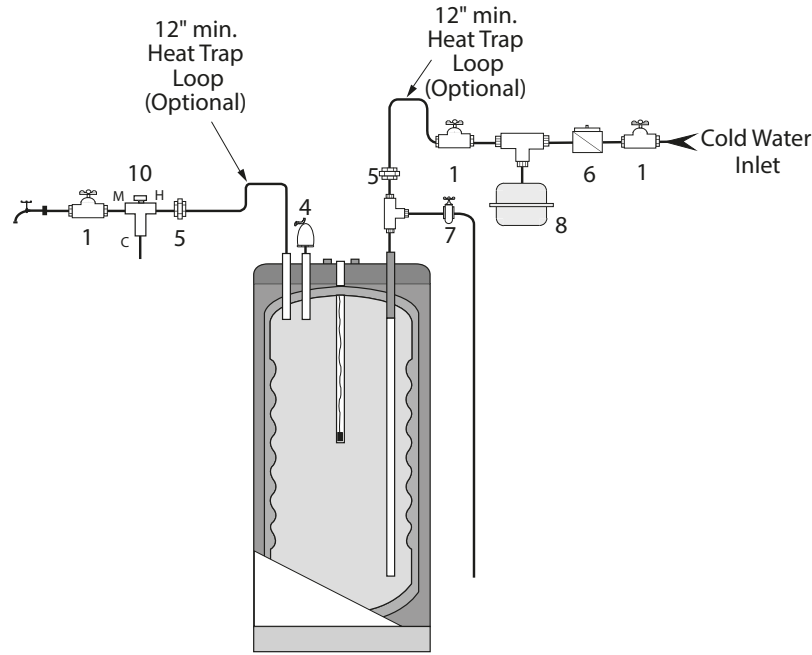
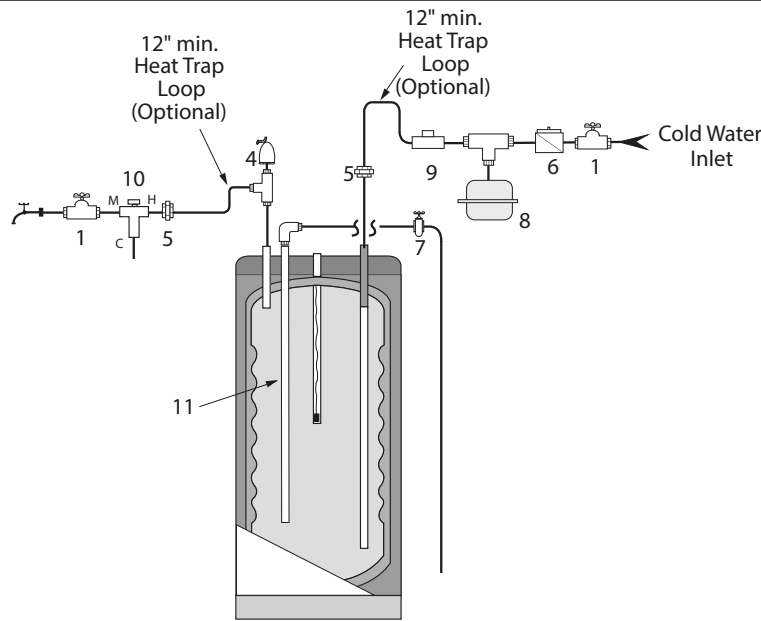

Fig. 2 - Standard Installation - Domestic Piping - SMART Series
Fig. 6 - Commonwealth of Massachusetts - Domestic Piping SMART Series
- For domestic water piping diagram, refer to *Fig. 2 on page 7 thru Fig. 6 on page 9*.